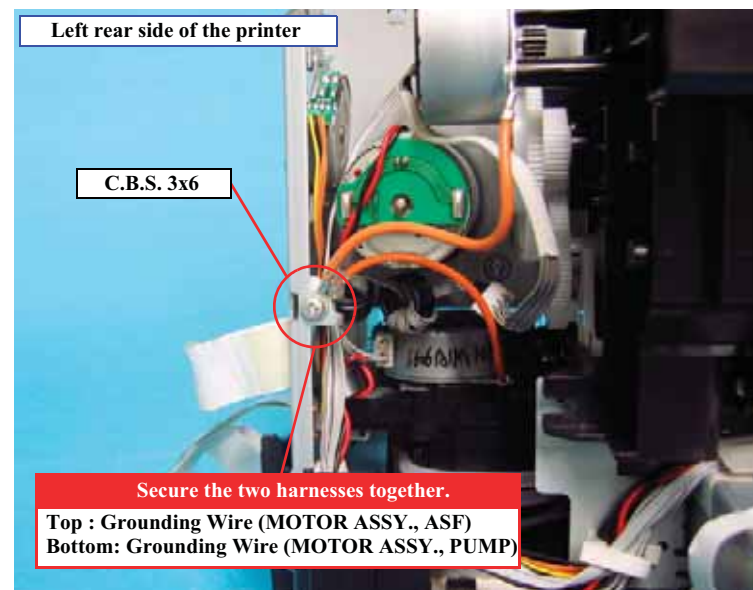

Figure 4-106. Releasing the HARNESS
9. Remove the screw on the rear of the main unit that secures the grounding wire of the MOTOR ASSY., ASF and the MOTOR SSY., PUMP, and release them from the main frame. See Figure 4-106.